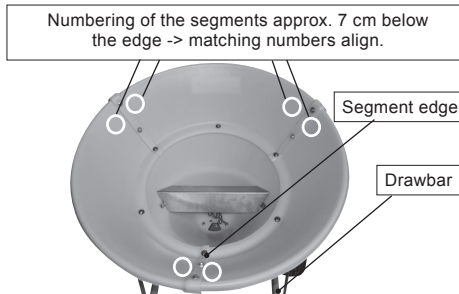

Figure 6.2.3: Hopper attachment for SW200
1. Place the three hopper attachment segments (top pointing downwards) in a circle following the numbering on the segments (see figure 6.2.3).